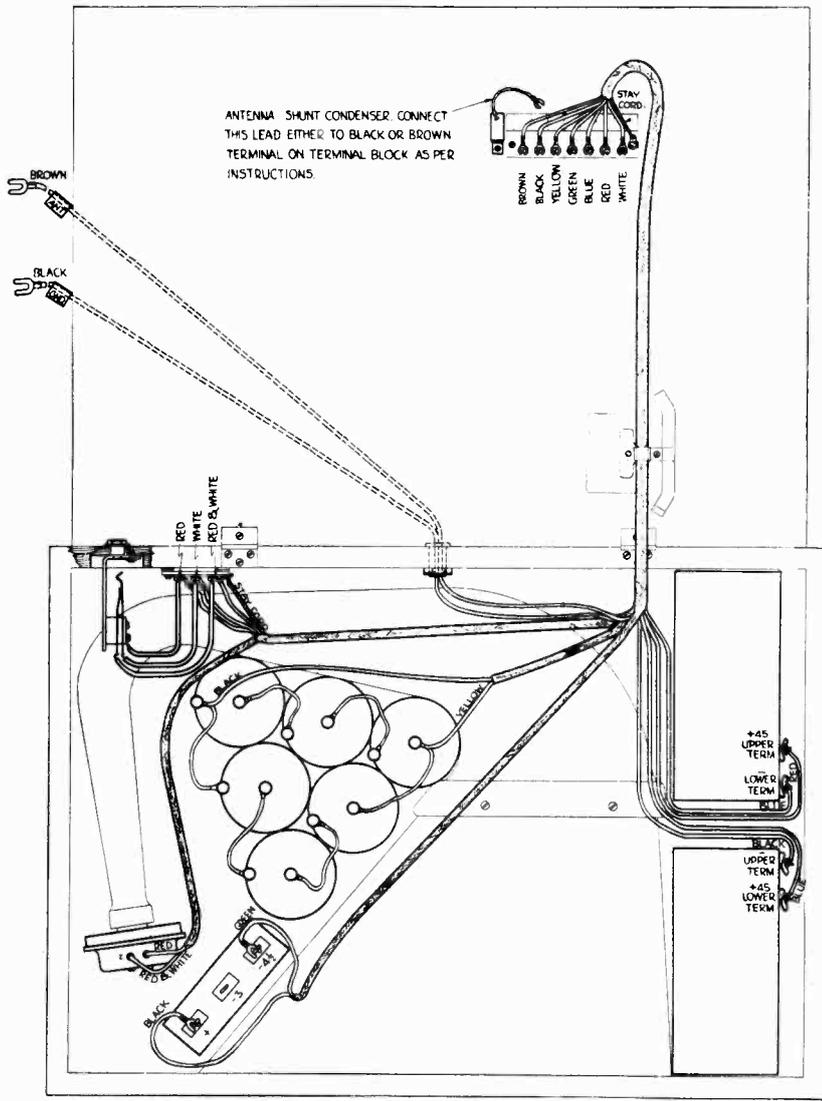

FIG. 3—CABLE CONNECTIONS OF RADIOLA VII-B
and removing the wing nuts (No. 14, Fig. 2). Then the cells may be taken out and new ones connected in their place. Attached to each lead is a marked metal tag designating to which point the lead is to be connected. Reference to figures 3 and 4 will preclude the possibility of an error in connection and will warrant careful attention. The carbon or center part of a standard dry cell is positive. **DON'T FORGET TO REMOVE TUBES FROM SOCKETS BEFORE REPLACING ANY BATTERIES. NEVER BURN TUBES MORE BRIGHTLY THAN REQUIRED FOR A REASONABLE SIGNAL.**
If an antenna of less than 40 ft. is used, the flexible lead on shunt condenser, Fig. 3, must be connected to the brown or antenna terminal on the terminal board of the Radiola VII-B. Should a longer antenna be used, this flexible lead should be connected to the black, or ground terminal on the terminal board, which throws the condenser out of circuit.
The "A" batteries must be placed in the cabinet with their terminals as shown in Fig. 3. Remove thumb screw and place the four special connectors on batteries as shown. This connects the batteries in three series groups, of two cells each in parallel. The yellow leads are connected to the center of positive terminal of the "A" battery and the black leads to the outside or negative terminal.
The method of connecting the "B" battery is clearly shown in Fig. 3. The leads are sufficiently long to permit making the connection outside the cabinet for convenience. The rear battery shown in Fig. 3 should be placed in the front of the cabinet first and pushed towards the rear, then the front battery shown in Fig. 3 can be lowered in its place as shown in Fig. 3.
1. Be sure that set is properly connected, as per diagram, Fig. 3.